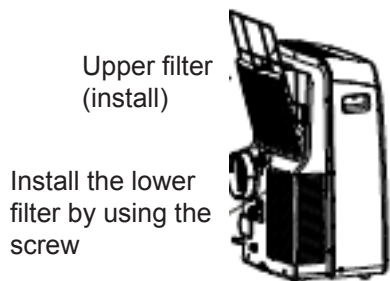

Fig. 24
- Mounting Install the upper air filter after cleaning , and install the lower filter by using the screw (see Fig.24).